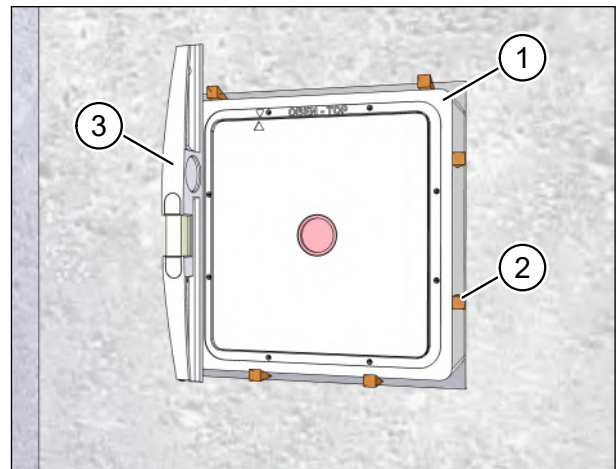

Fig. 15: Fixing the wall box
- ▶ Fix the wall box (item 1 in Fig. 15) in position in the wall breakthrough using wedges or air cushions (item 2 in Fig. 15) on both the inside and the outside.
- ▶ Use the spirit level (item 3 in Fig. 15) to align the wall box so that it is perpendicular and flush with the wall.